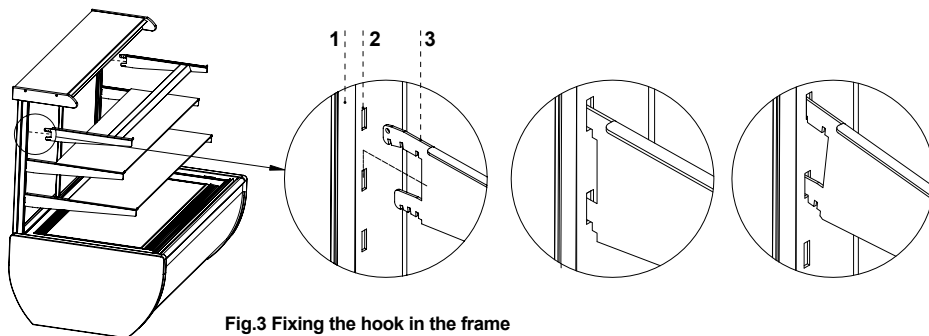

Fig.3 Fixing the hook in the frame
1. (This concerns only "Jamajka" device) Fix hooks with fluorescent lamp in the frame Fig.3 (p.15)